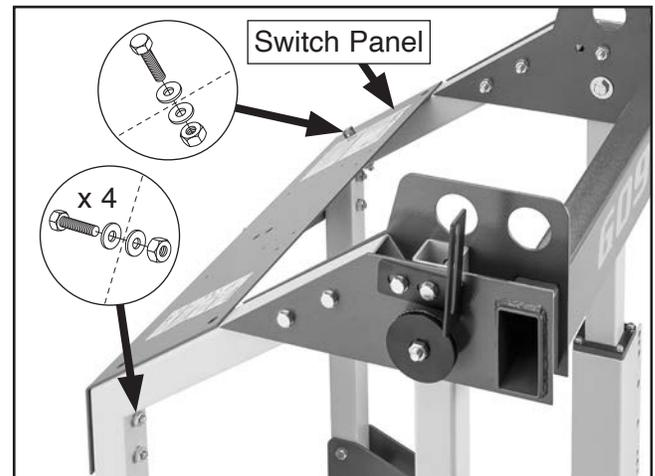

Figure 30. Switch panel attached to rear posts.
27. Attach switch panel to rear posts with (5) M10-1.5 x 70 hex bolts, (10) $\frac{3}{8}$ " flat washers, and (5) M10-1.5 hex nuts (see **Figure 30**).